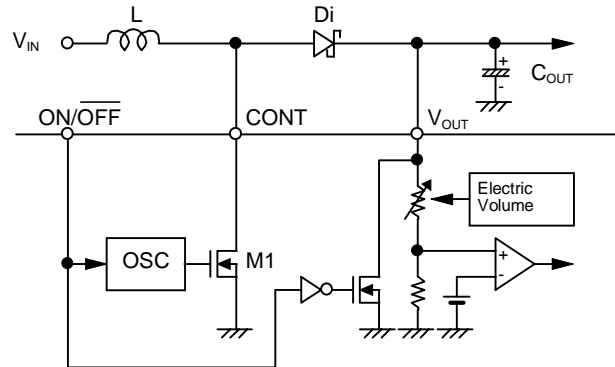

Figure 5 Step-Up DC-DC Converter
The following are fundamental equations of set-up switching regulators [(1) to (7)] (see Figure 5).